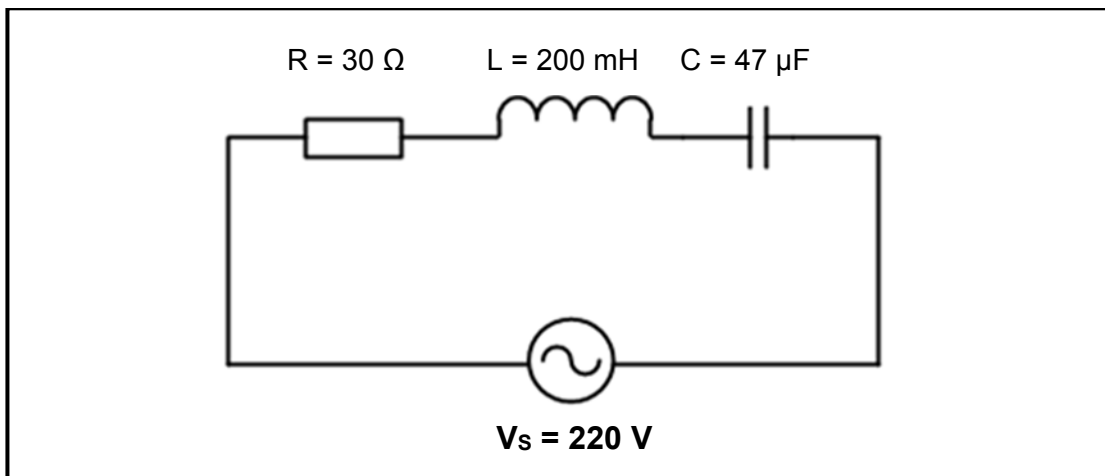

FIGURE 5.2 RLC SERIES CIRCUIT
- 5.5 The circuit in Figure 5.2 is at resonance. Calculate the frequency of the supply. (3)